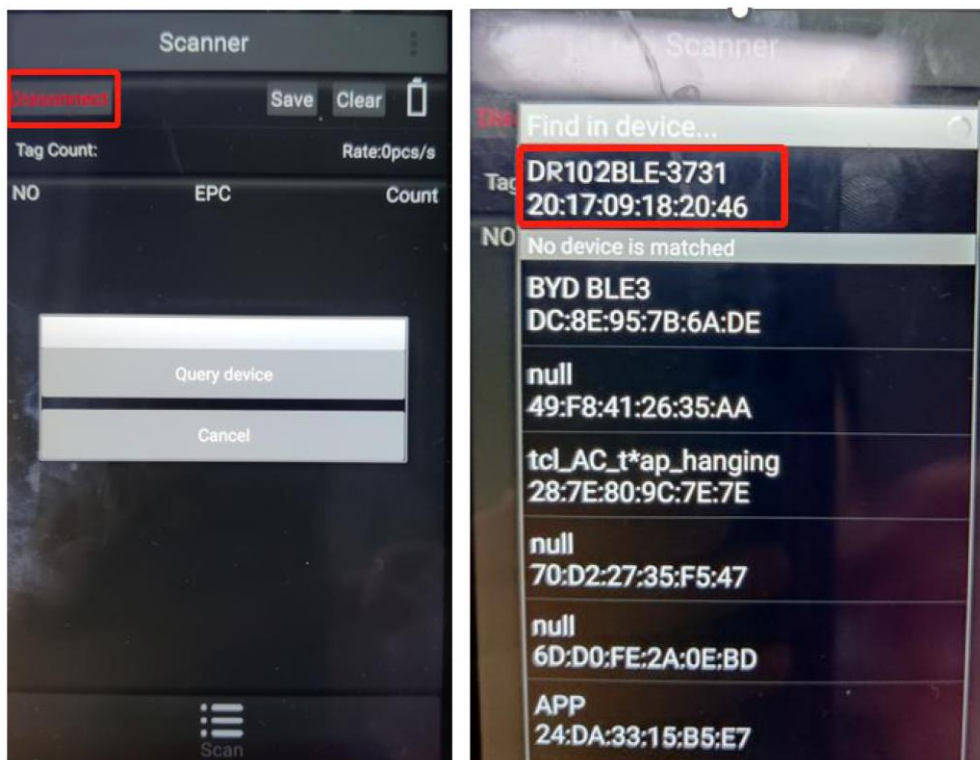

Figure 6
- If the device is connected for the first time, the left display interface of Figure 6 appears, and the Pin code is **6789**. Enter the connection password and click OK to connect.